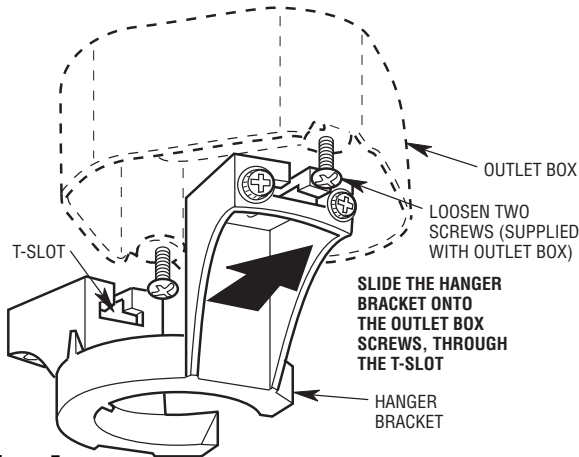

Figure 5
1. Unscrew (but do not remove) the two mounting screws in the outlet box (Figure 5). Position the hanger bracket on the outlet box so that the T-slots in the hanger bracket are aligned with the outlet box screws.